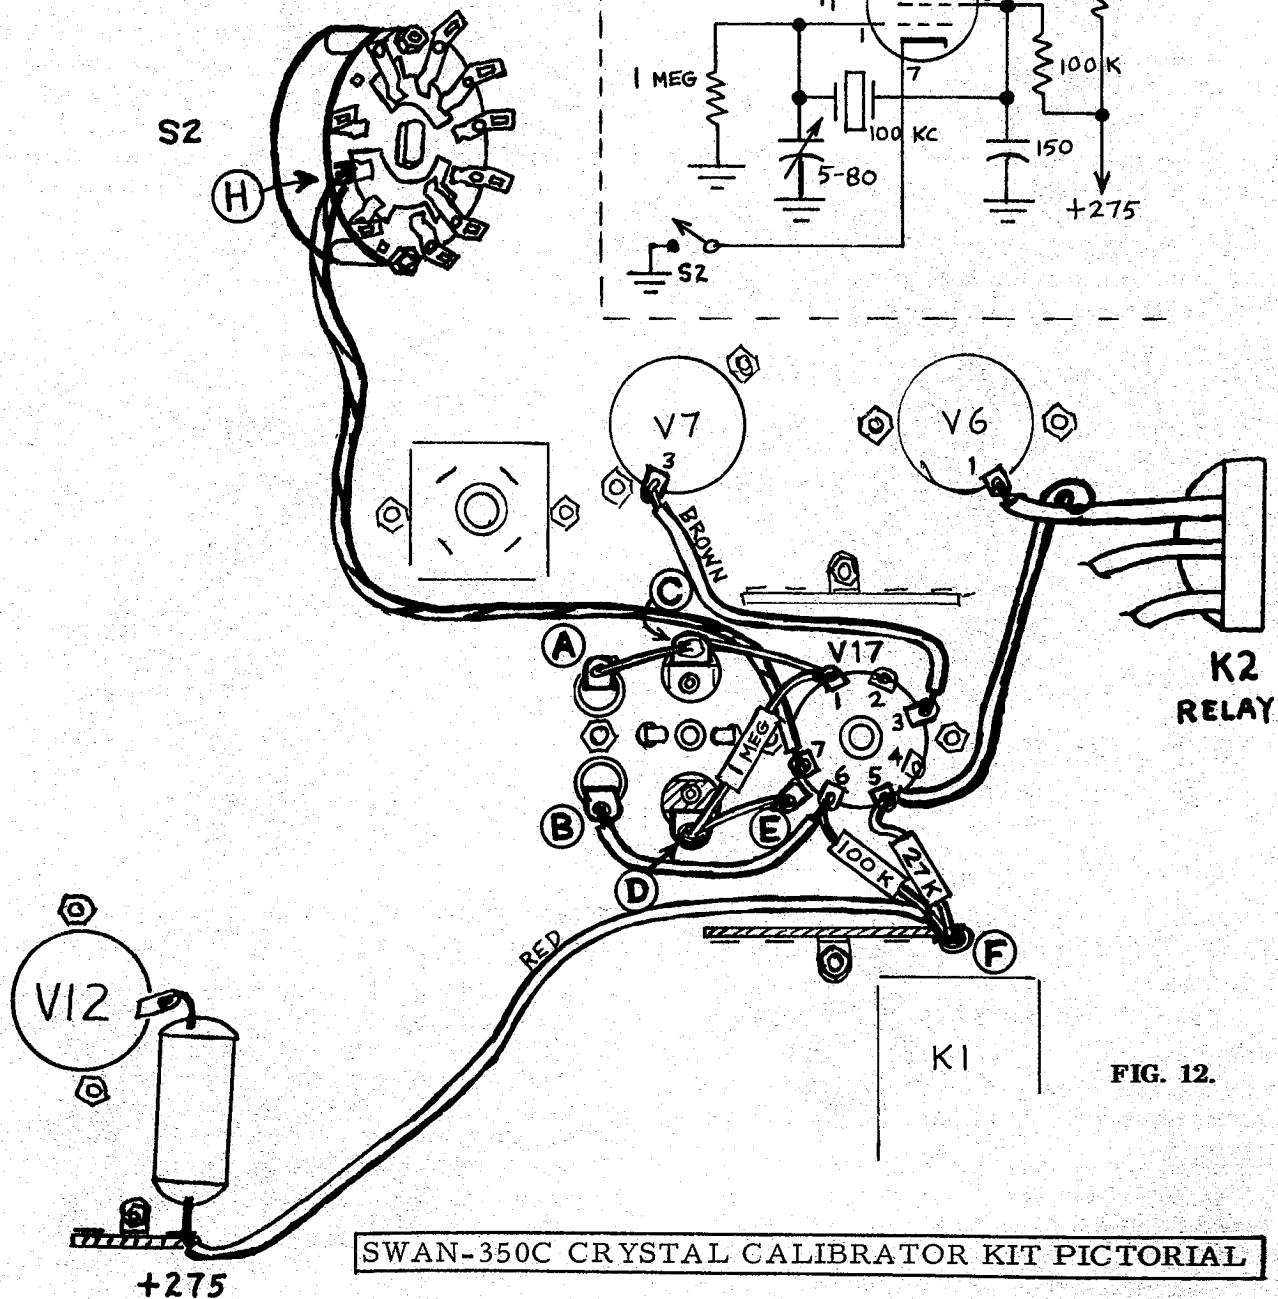

FIG. 12.
1. Locate the empty tube socket hole in the 350C chassis. Mount the pre-wired socket in this hole, positioned as shown in the illustration Fig. 12.